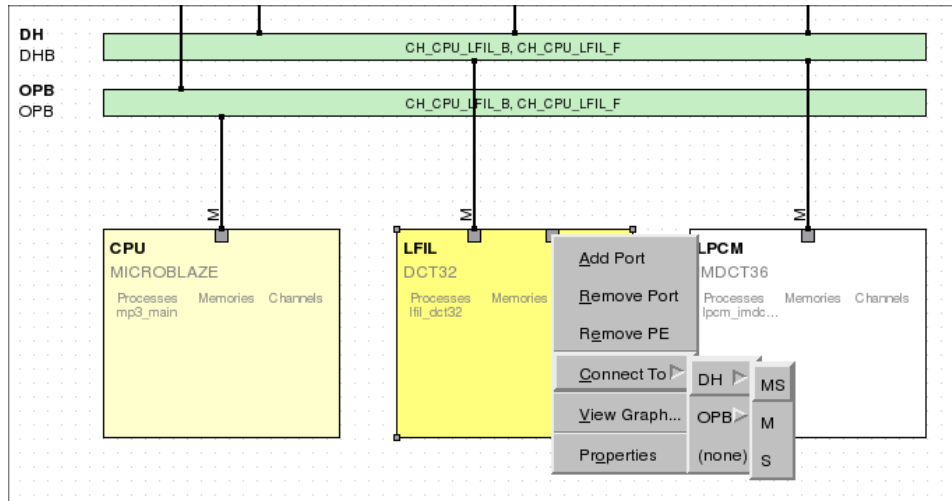

Figure 4-23. Connecting to the bus dialog.
Users can connect the PE/CE to the bus (named Bus_name) by right-clicking on the created PE/CE's port and selecting **Connect to Bus_name** option. Generally, PE/CE ports can be connected to buses either as bus master (M), bus slave (S) or as combined bus master/slave (MS), as shown in Figure 4-23.